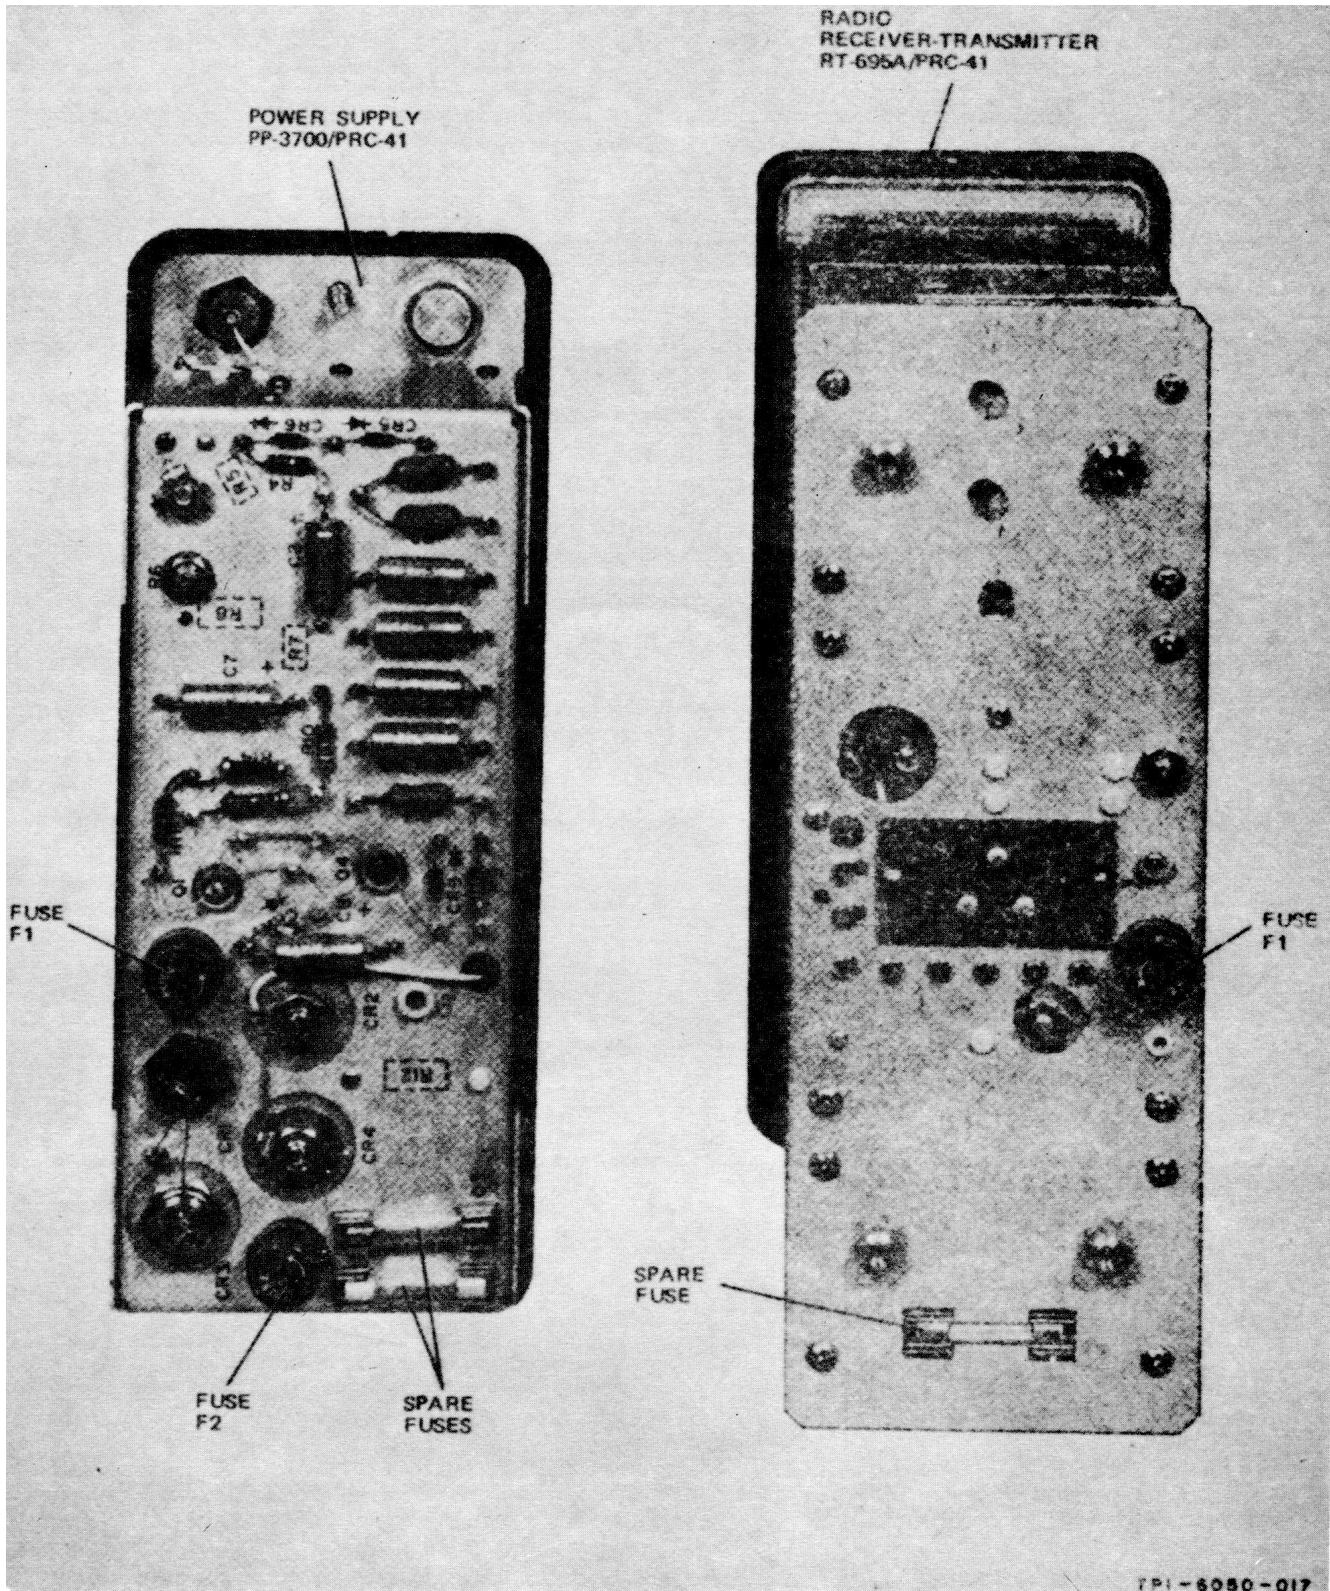

Figure 3-2. Radio Receiver-Transmitter RT-695A/PRC-41 and Power Supply PP-3700/PRC-41, Rear Views, Fuse Locations
c. EMERGENCY MAINTENANCE. - If the equipment fails to operate during a tactical operation, the operator should immediately check the condition of charge of Storage Battery BB-451/U (if the BB-451/U is in use), make a complete check to see that all cables are undamaged and that their connectors are secure, and check for the availability of primary power by setting the OFF-T/R-T/R/G-DIAL LIGHT switch to DIAL LIGHT (paragraph 3-4a(3)). If the dial light will not light and the equipment is completely dead, replace the fuses in Radio Receiver-Transmitter RT-695A/PRC-41 and Power Supply PP-3700/PRC-41 (if it is in use) according to the following steps of procedure. Refer to figure 3-2. If Power Supply PP-3700/PRC-41 is in use, before replacing fuses set the OFF-T/R-T/R/G-DIAL LIGHT switch to OFF then to one of the other switch positions and recheck operation.
(1) RADIO RECEIVER-TRANSMITTER
RT-695A/PRC-41. (Refer to figure 3-2.)
(Refer to figure 3-2.)